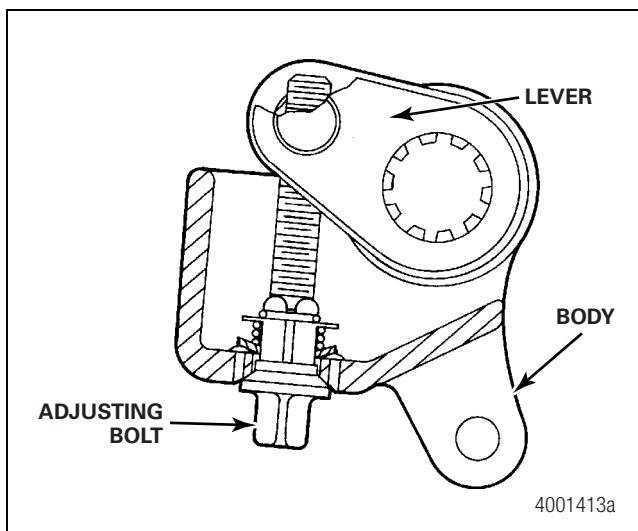

Figure 5.30
5. If the clearance is more than 0.012-inch (0.30 mm), turn the adjusting bolt adjusting lever until the clearance is correct. Figure 5.30.